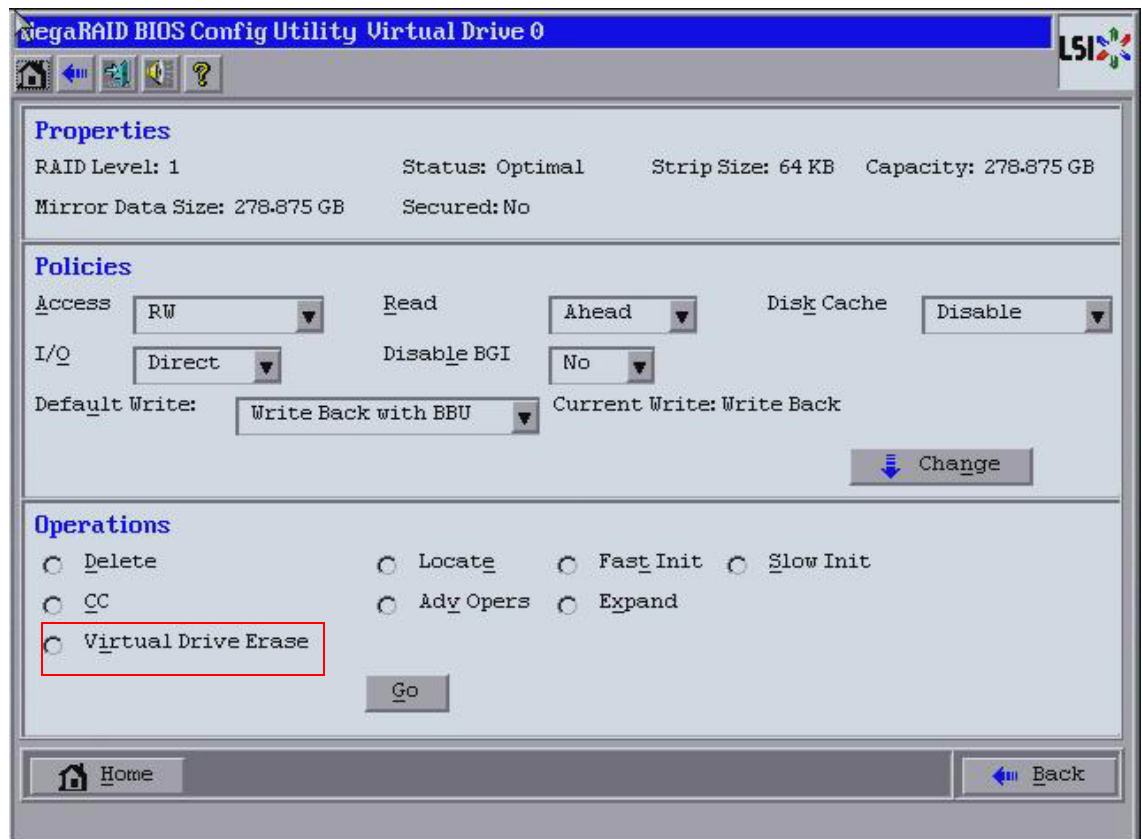

Figure 143: Virtual Drive Dialog
- Select the **Virtual Drive Erase** radio button and click **Go** as shown in Figure 143.